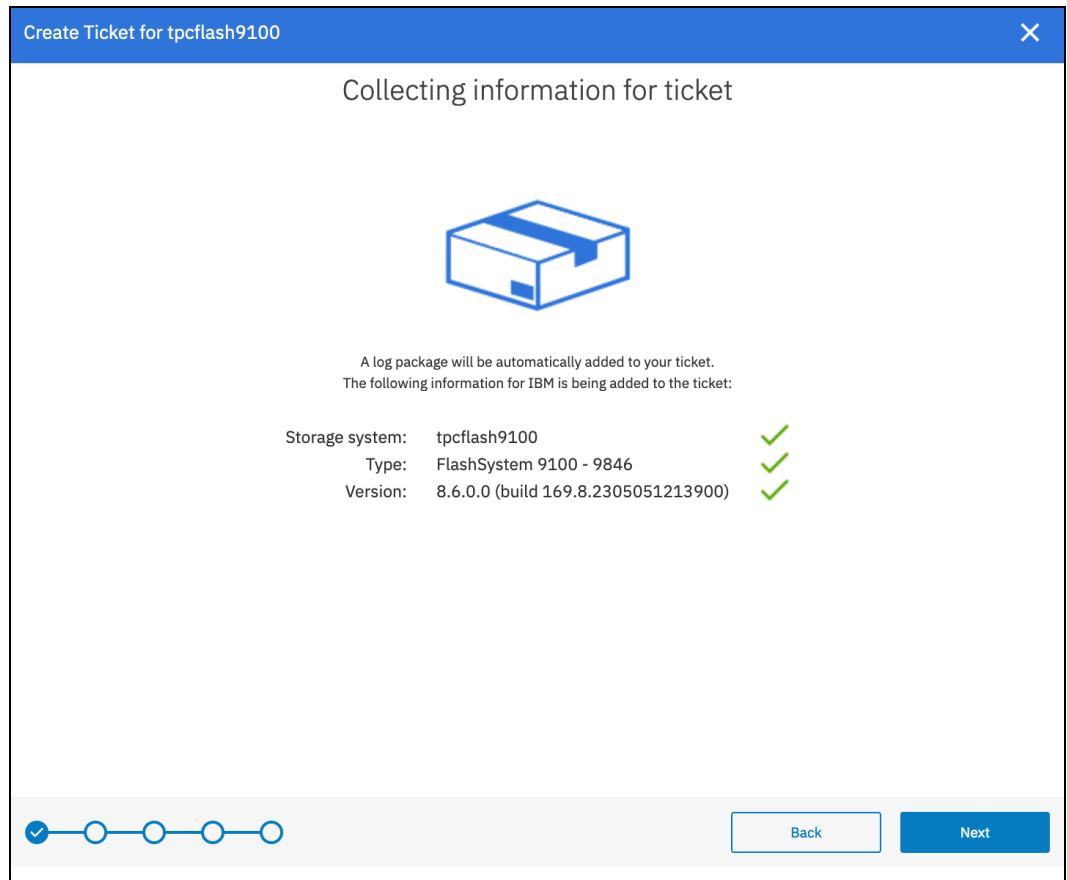

Figure 5-13 Create Ticket wizard
2. Select **Create Ticket**, and the ticket creation wizard opens. Details of the system are automatically populated, including the customer number, as shown in Figure 5-13. Select **Next**.